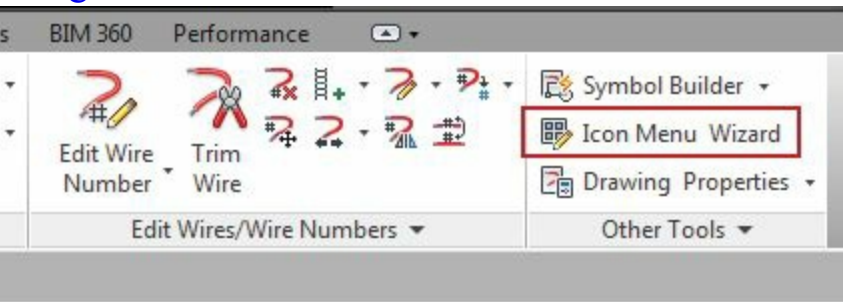
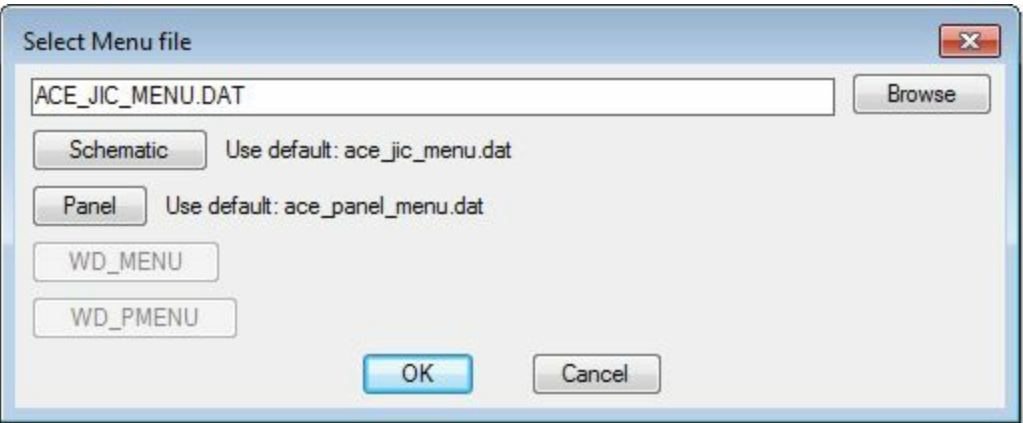

Figure-51. Icon Menu Wizard button
Figure-52. Select Menu file dialog box
**Ribbon**; refer to Figure-51. The **Select Menu file** dialog box will be displayed as shown in Figure-52.